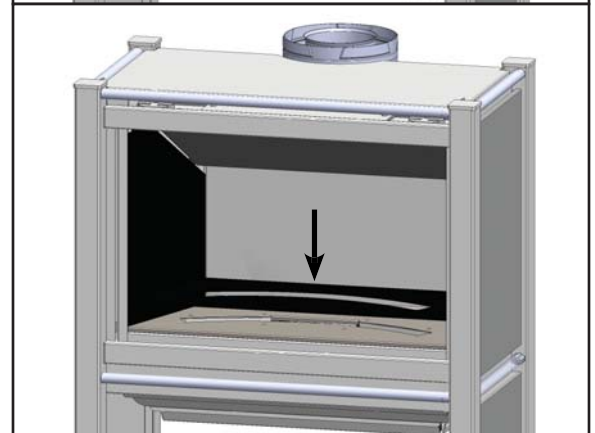

Fig.14
10. Place the floor glass on top of the floor plate assembly. (Fig.14) **NOTE: SMOOTH SIDE SHOULD FACE UP.**